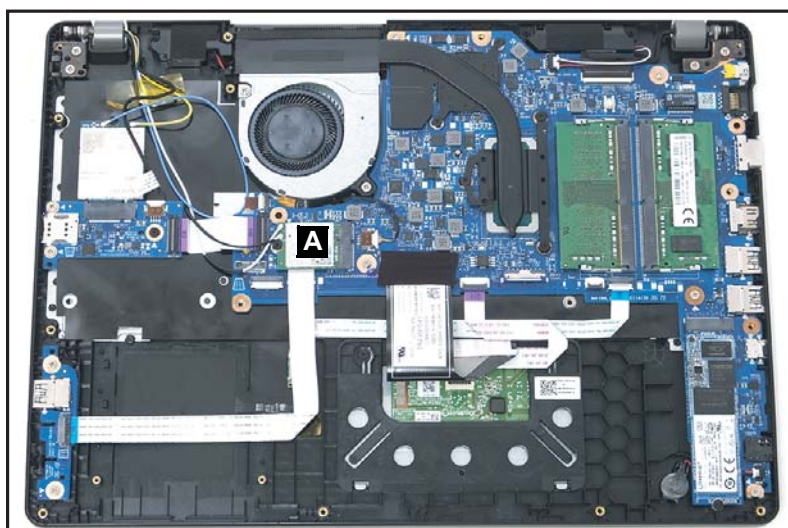

Figure 1-12. WLAN Module Location
1. Find the WLAN module (A) on the top assembly (Figure 1-12).